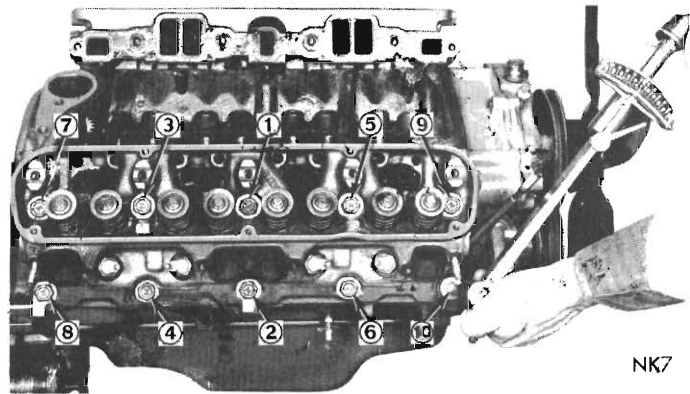

Fig. 2 - Cylinder head tightening sequence (typical)
(1) Clean all gasket surfaces of cylinder block and cylinder heads.
(2) Inspect all surfaces with a straight-edge if there is any reason to suspect leakage.
(3) Coat new gaskets with a suitable sealer where necessary and install on cylinder block.
(4) Remove cylinder heads from holding fixtures and place heads on engine.
(5) Install cylinder head bolts. Starting at top centre, tighten all cylinder head bolts to 50 lbs. ft. in sequence, as shown in Fig. 2. Repeat procedure, retighten all cylinder head bolts to 95 lbs. ft. on all engines with composite gasket or 85 lbs. ft. with steel gasket.
(6) Inspect push rods and replace worn or bent rods.
(7) Install push rods, rocker arm and shaft assemblies with the "NOTCH" on the end of rocker-shaft pointing to centreline of engine and toward front of engine on the left bank and to the rear on right bank, making sure to install the long stamped steel retainers in the number two and four positions, tighten to 18 lbs. ft.